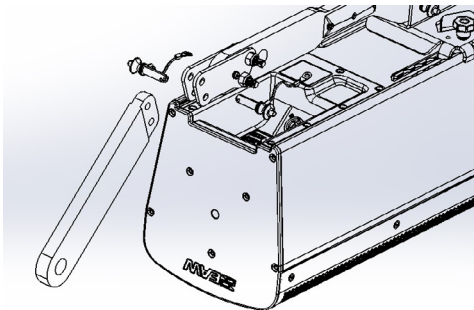

Figure 12 - Attach Mohawk to Stinger
6. Attach Mohawk (F) and suspend/fly array
- Attach Mohawk with pins at the end of the stinger (Figure 12)